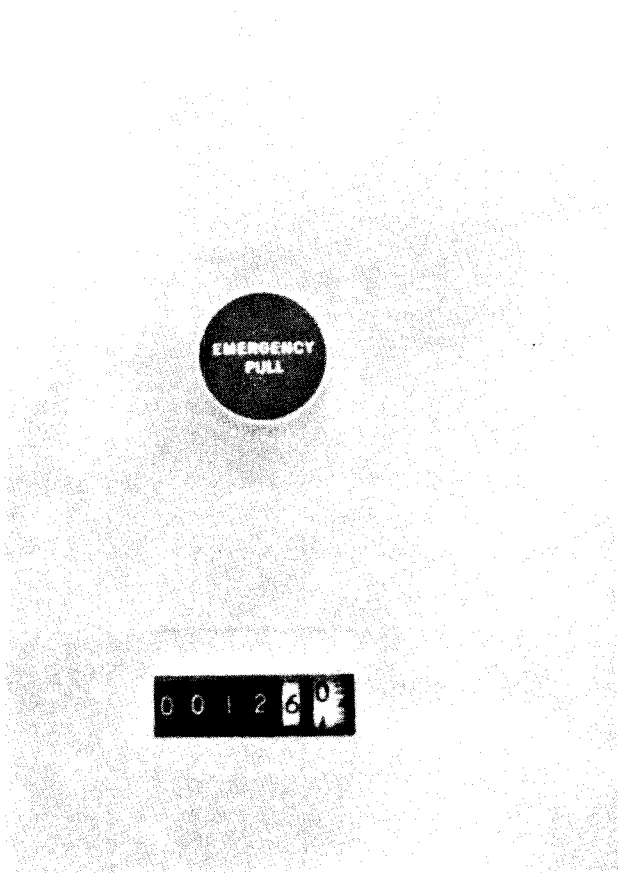

Figure 4. Emergency Power Off and Meter Panel
*EMERGENCY PULL Switch:* This switch (Figure 4), as its name implies, should be used only under unusual circumstances. Once the EMERGENCY PULL switch is pulled, system power cannot be turned on until the IBM Customer Engineer has reset the switch. Information in storage is destroyed when this switch is used. Data on disks can also be destroyed by this operation.
*Usage Meter:* This meter (Figure 4) records the time used to process programs and data. The meter records all the time that the processing unit is in operation.